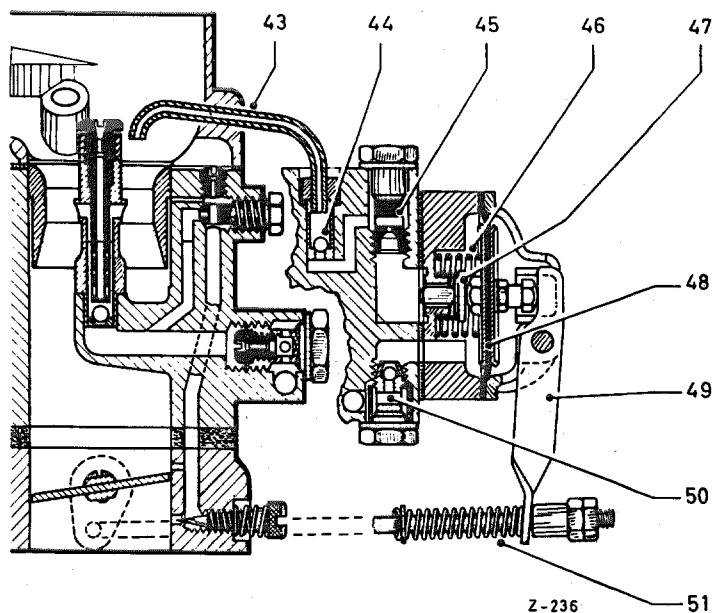

Fig. 07 — 0/17
The accelerating pump used is a so-called "neutral" pump, i. e., the engine can draw in fuel via the injection tube according to the degree of depression prevailing in the intake manifold. The accelerating pump (Fig. 07 — 0/17) is a mechanically-operated diaphragm pump which is connected to the throttle of Stage 1 by means of an adjustable lever-linkage. When the accelerator is depressed, the diaphragm pump sprays extra fuel into the mixing chamber of Stage 1. By virtue of this additional injection, a smooth speed build-up and good acceleration is achieved. When the accelerator is depressed, the pump arm (49) is moved by means of the connecting rod (51). The pump arm in turn presses on the diaphragm (48) and in consequence, the fuel which is in front of the diaphragm is injected via the plate valve (47), the pump jet (45), the ball valve (44) and the injection tube (43) into the mixing chamber of Stage 1. The aperture of the injection tube takes the form of a precision bore of 0.5 mm  $\varnothing$ .